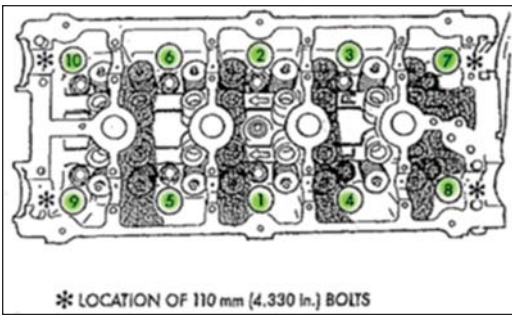

Figure 3 Torque sequence for 2.0L DOHC with MLS gasket installation. The 4 short bolts are placed in the corners of the block (marked with an asterisk).
Note: The 4 short bolts are placed in the corners of the block (marked with an asterisk in **Figure 3**, which also explains torque sequences).
1. Using a six inch wobble plus extension friction ball and shallow socket following the torque sequence shown in **Figure 3**, loosen one bolt at a time to 0 torque and then torque that same head bolt to 60 ft.lbs.